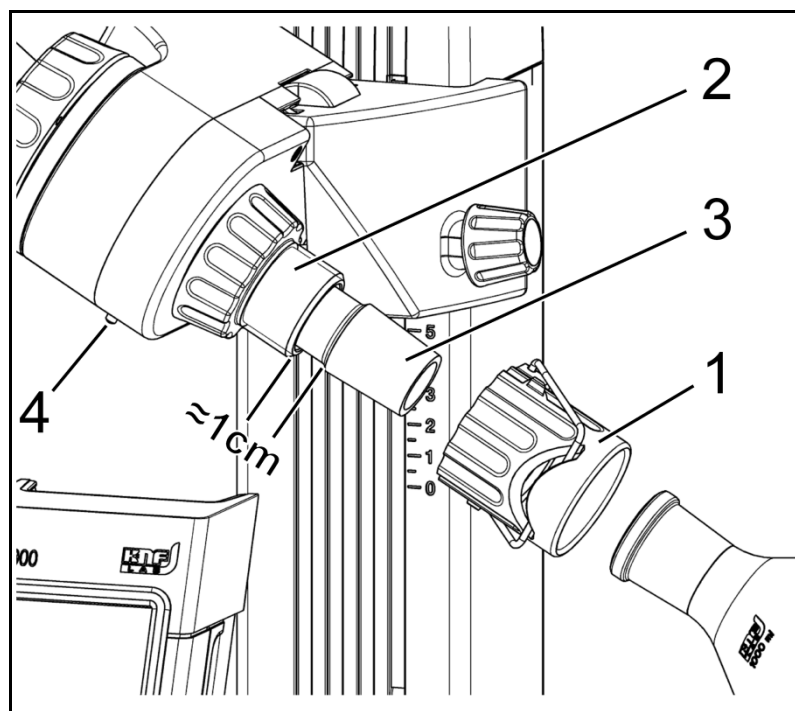

Fig. 20: Changing vapor tube
1. Screw off flask nut (Fig. 20/1).